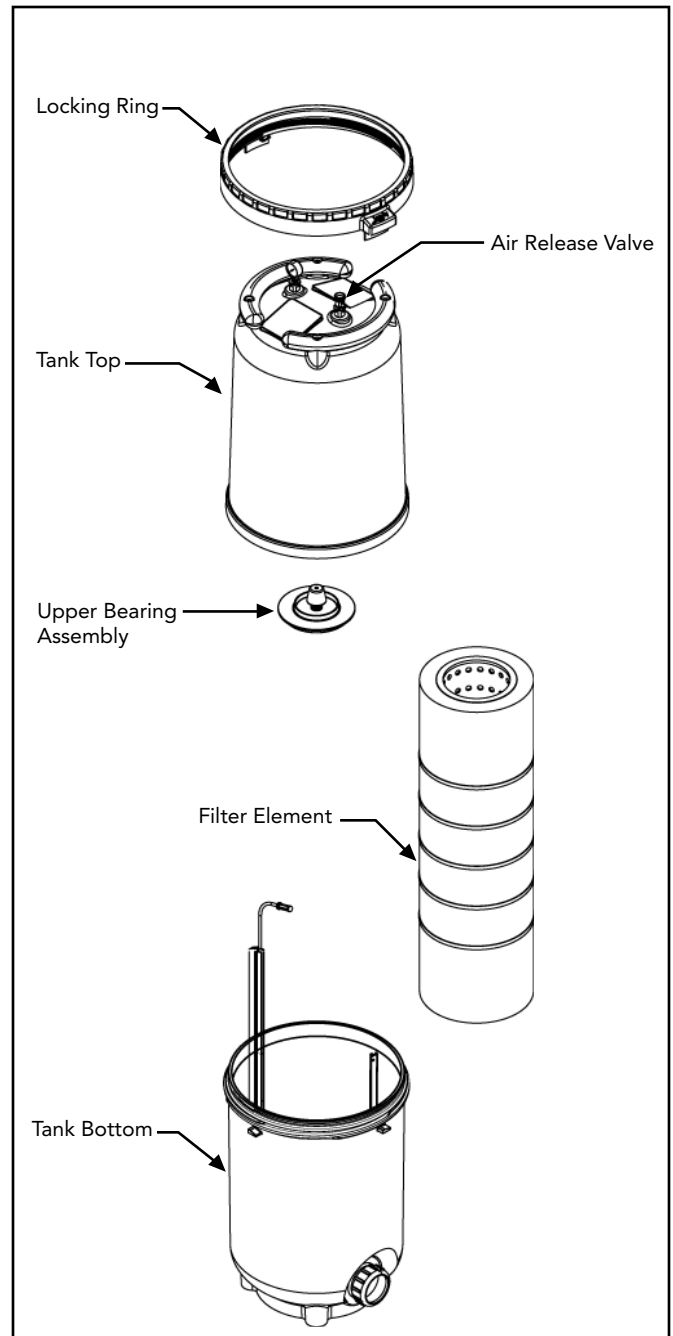

Figure 6- Filter Element Removal
2. Open air release valve on top of the filter tank to release all pressure from inside the tank and system (see Fig. 6). Close any filter isolation valves on the system to prevent flooding.